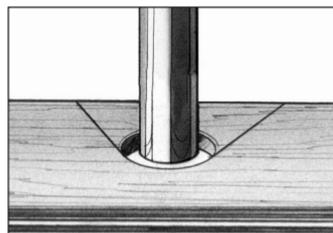

Fig. 40
- Cut in from the edge at a 45° angle towards the holes in the piece (Fig. 40).